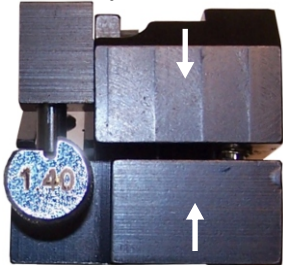

Fig.2
1. Ensure the proper tube insert based on the predetermined buffer tube size is assembled in the tool and located properly. From its operating position shown in the photo above, the insert is rotated 1/4 turn clockwise to insert it or remove it from the tool. When switching over tube inserts, always check the insert alignment in the tool prior to the first use. Align the insert by eye as close as possible, then close the tool halves, allowing the shaving blade to precisely align it. Figure 2 shows the front of the tool with a properly aligned insert.